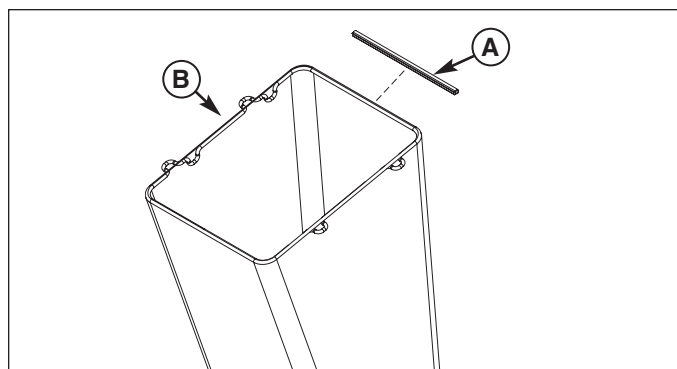

Figure 12. Install Clip to Bag
1. Slide the white bar (A, Figure 12) onto bag assembly (B) as shown.